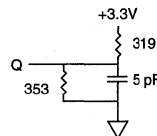

Fig. 2 OUTPUT LOAD EQUIVALENT
- ¹HZCE, ¹HZOE, ¹HZBE and ¹HZWE are specified with C_L = 5pF as in Fig. 2. Transition is measured ±200mV from steady state voltage.
- The test function pin (TF) can be treated as a no connect pin. However, it is recommended that the pin be grounded.